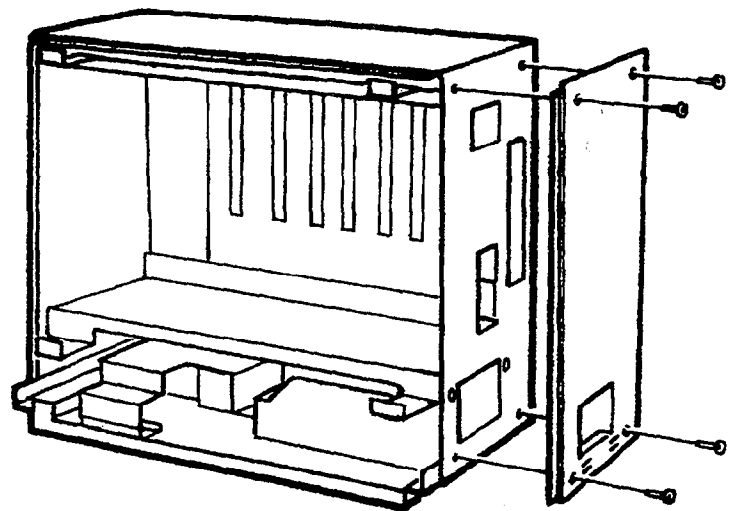

Figure 3-20 Removing the Level II Basic KSU Side Panel
1. Remove the side panel on the Basic KSU. Refer to Figure 3-20 - Removing the Level II Basic KSU Side Panel.